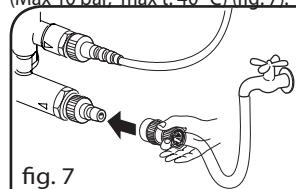

fig. 7
- Connect garden hose to unit's water inlet (Max 10 bar, max t. 40° C) (fig. 7).